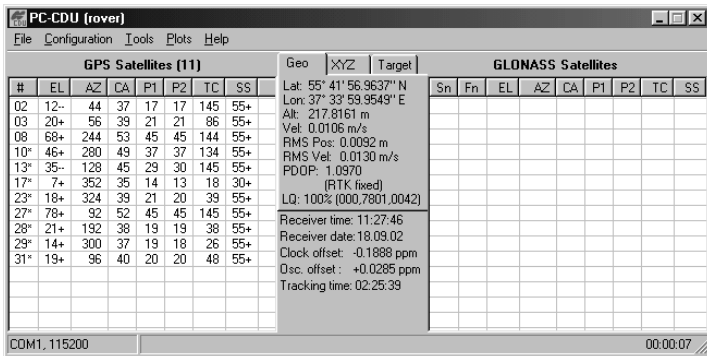

Figure 3-13. PC-CDU Main Screen
9. On the main screen (Figure 3-13), check the *LQ* field to ensure the receiver obtains differential corrections. Usually, the receiver will start to output the coordinates of the antenna's phase center along with the solution type within 10–30 seconds. However, spread spectrum radios may take as long as 60 seconds to synchronize.